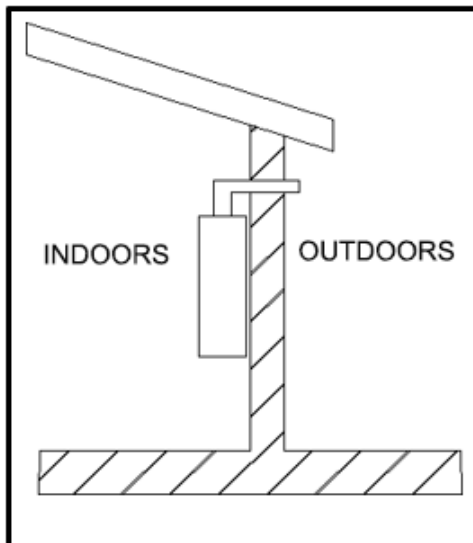

Fig. 3
- The flue of the gas water heater should be installed through an external wall, the heater cannot be installed in outdoors. (Fig.3)